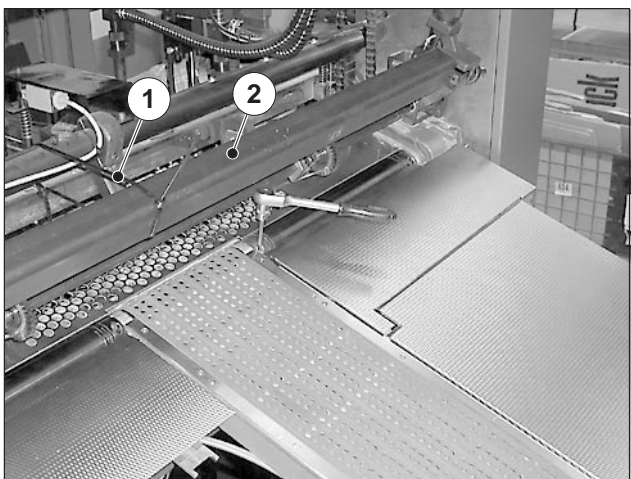

Fig. 106
15. Fold the tear-off detector / multiple-sheet detector (Fig. 106/2) into working position.